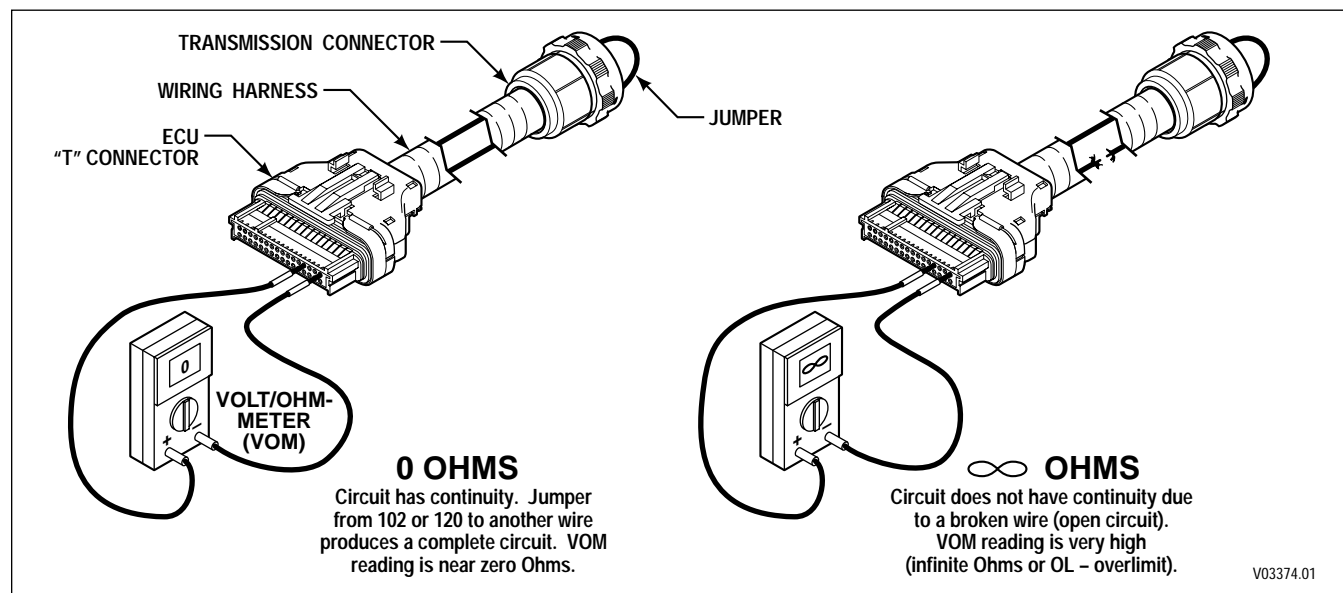

Figure 4-1. Open Circuit
- a. Check continuity of wires 102-T1 and 120-T4 by performing the following (refer to Figure 4-1):
- (1) Disconnect the blue “T” connector from the ECU and disconnect the harness from the transmission main connector. At one end of the harness, using jumper wire kit J 39197 and connector probes in J 39775-CP, connect wire 102-T1 and 120-T4 to each other, being careful not to distort the terminals. Jumping the wires together creates a circuit between wires 102-T1 and 120-T4.